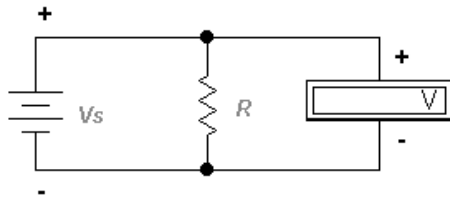

Figure 3-1
This experiment will familiarize you with basic voltage and current measurements across and through a resistor that is connected to a dc power supply. We shall deal with measurement of voltage first. There are two main points to remember: the method of connecting the voltmeter, and the polarity. A voltmeter must always be connected with the probes *across* the component under test; that is, the circuit need never be broken (see Figure 3-1). This is often referred to as a parallel connection. Knowledge of the polarity of a voltage is essential when using an instrument like the analog multimeter. The red probe must always be connected to a positive terminal, while the black probe is connected to the negative terminal or ground. If the connection is reversed, the analog multimeter will not be able to measure voltage or current. Digital multimeter must likewise follow the same connection. However, when inserted backwards, it will indicate a negative voltage on the readout.
6. Remove the meter and connect the resistor across the terminals of the power supply as shown in Figure 3-1. Reconnect the meter as shown. (The voltage should not have changed from the 1 V value.)